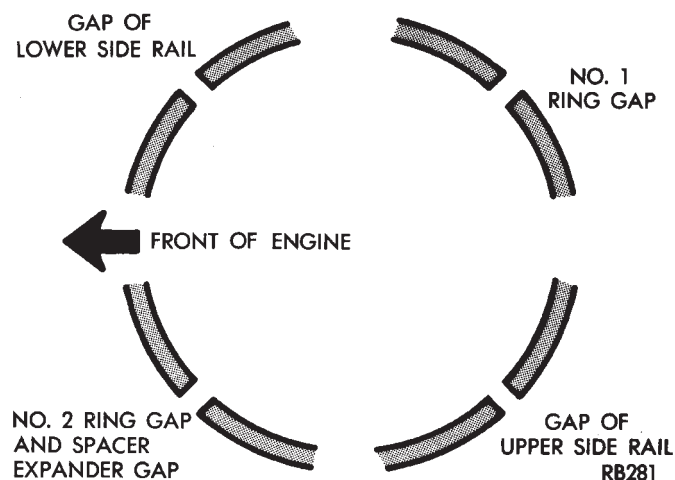

Fig. 19 Piston Ring End Gap Position
firmly and press down the portion to be installed until side rail is in position. **Do not use a piston ring expander.** (Fig. 19).
(5) Position piston ring end gaps as shown in (Fig. 19).
(6) Position oil ring expander gap at least 45° from the side rail gaps but **not** on the piston pin center or on the thrust direction. Staggering ring gap is important for oil control.
(1) Before installing pistons and connecting rod assemblies into the bore, be sure that compression ring gaps are staggered so that neither is in line with oil ring rail gap.
(2) Before installing the ring compressor, make sure the oil ring expander ends are butted and the rail gaps located as shown in (Fig. 19).